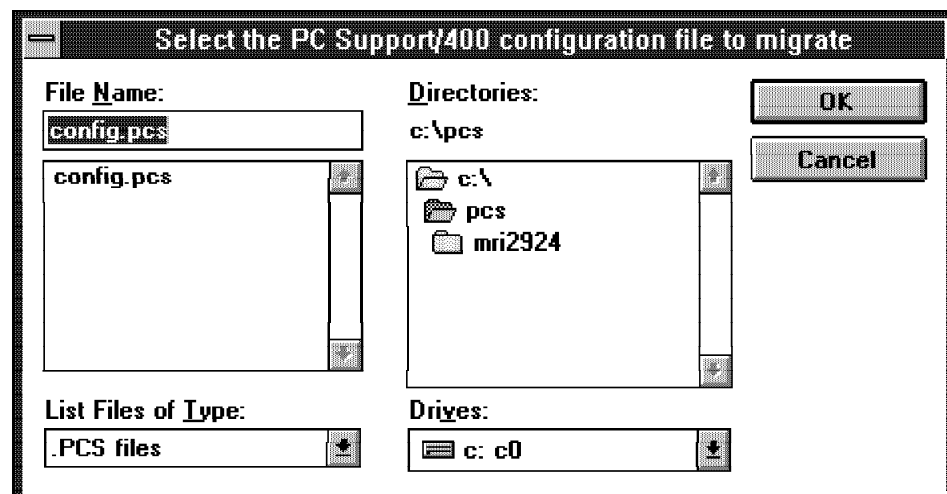

Figure 76. Migration Tool - Configuration File to Migrate Prompt
6. You are then prompted to select the PC Support/400 configuration file to migrate as shown in Figure 76. The program automatically inserts the CONFIG.PCS file for you. Choose **OK**.